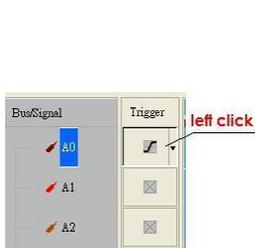

Fig 3-16 – Trigger Left click
1. Left click  to set the signal trigger edge as shown in Fig 3-16.